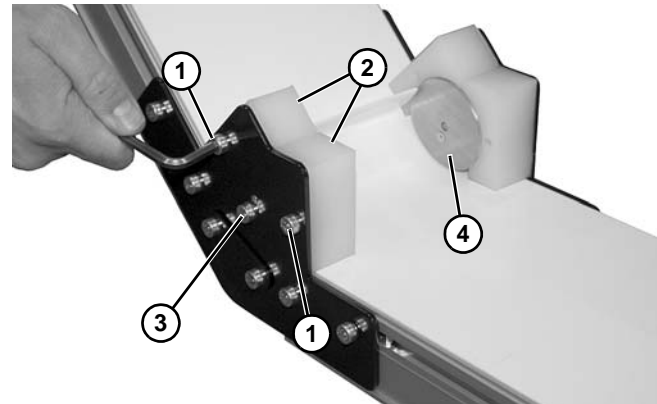

Figure 50
- If equipped with a lower knuckle, remove screws (**Figure 50, item 1**) and remove guards (**Figure 50, item 2**) on both sides of knuckle.
- Remove screws (**Figure 50, item 3**) and remove roller bearing assembly (**Figure 50, item 4**) on both sides of knuckle.